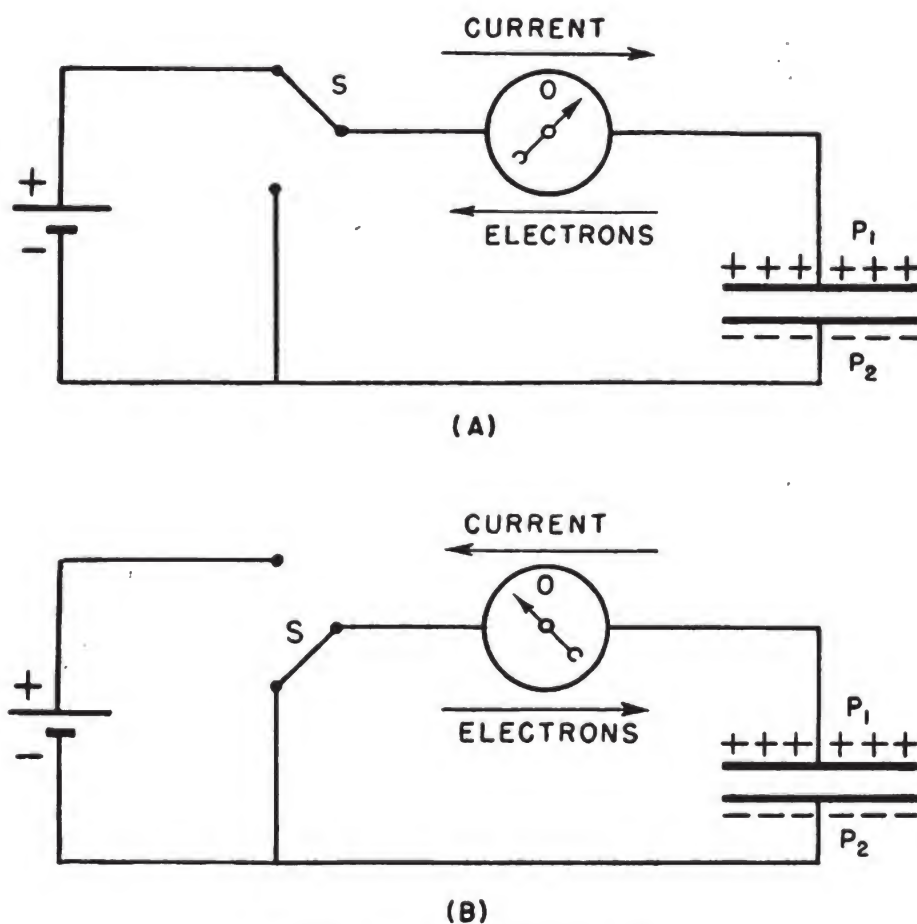

Figure 167.—Condenser action.
As you learned at the end of Chapter I, a condenser consists of conductors, or plates, separated by some insulator. Another name for this insulator is a **DIELECTRIC**. You use a condenser to reduce arcing at contact points, to counteract the objectionable effects of inductance, and to obtain **PULSES** of current. In figure 167, you can see the action of a condenser in an electrical circuit. When you close the battery circuit in (A) by means of switch *S*, you get a **MOMENTARY** flow of current as indicated by the deflection of the galvanometer. Though the current is only momentary, it does charge the condenser. That is, the emf of the battery forces electrons to flow away
When the switch S connects the plates of the condenser together, as you see in (B) of figure 167, the galvanometer is again momentarily deflected in a direction opposite to that in (A).